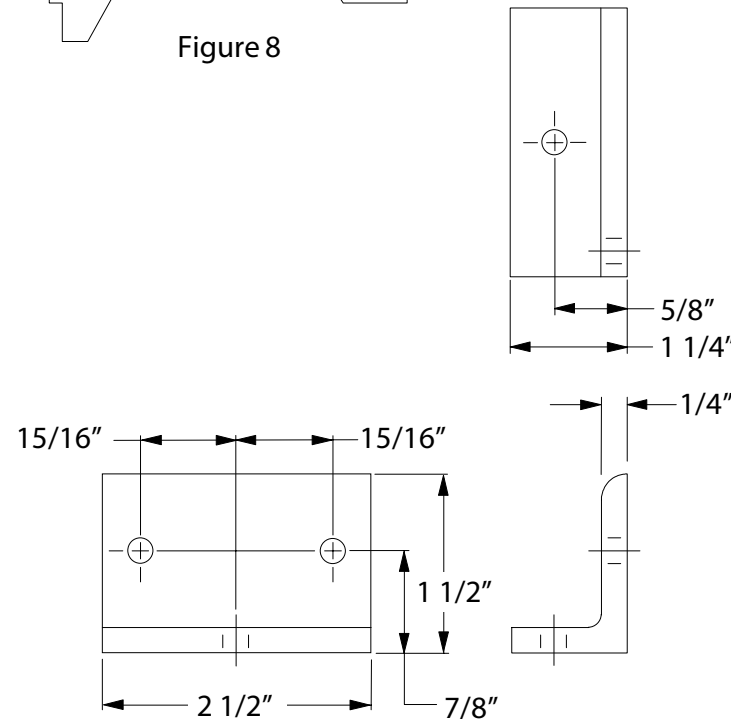

Figure 9
4. Insert mullion in top fitting and slide bottom of mullion into place in bottom fitting (see Figure 9 on reverse side).
6. Raise top mullion clamp over top mullion fitting and secure with mounting screws (see Figure 9 on reverse side).
8. Adjust strikes for $1/32$ " clearance between latchbolt and strike (see Figure 9 on reverse side).